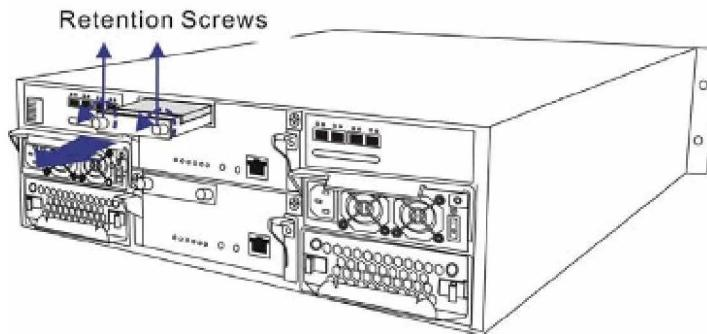

Figure 5-9: Removing the BBU
Step 1. Remove the faulty BBU from the chassis. Loosen the two (2) retention screws located on both sides of the BBU, then pull out the BBU. (See *Figure 5-9*)